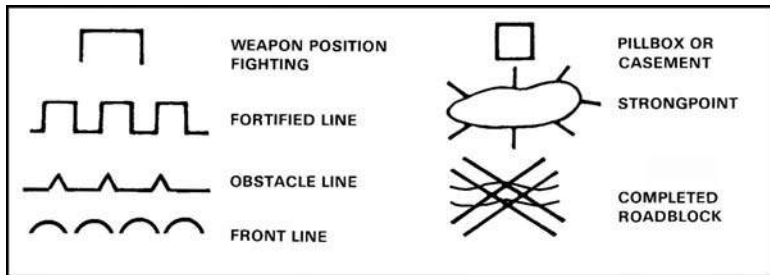

Figure 071-329-1019-11. Fortification and obstacle symbols
k. Tactical wire symbols (figure 071-329-1019-12).